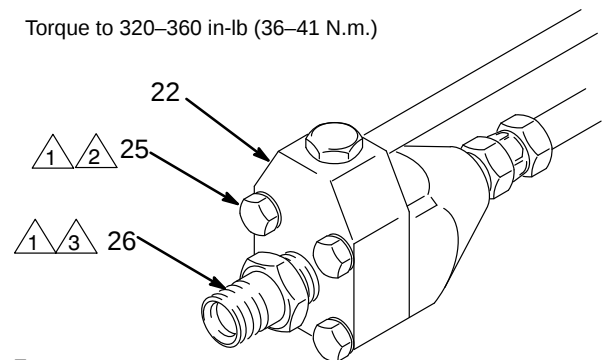

Fig. 5 0273
- After the first 3 to 5 hours of operation** torque the four screws (25) on the bottom of the paint pump (22) to 170–200 in-lb (19–23 N.m.) See Fig. 5.
- Also torque** the inlet valve (26) to 320–360 in-lb (36–41 N.m.)